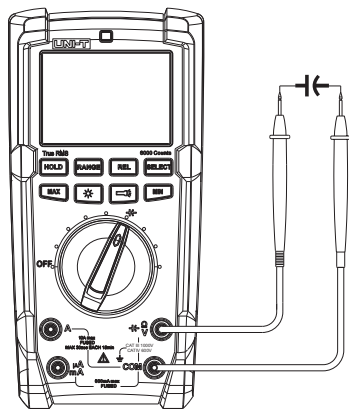

Figure 6
9.5 Capacitance Measurement (See Figure 6)